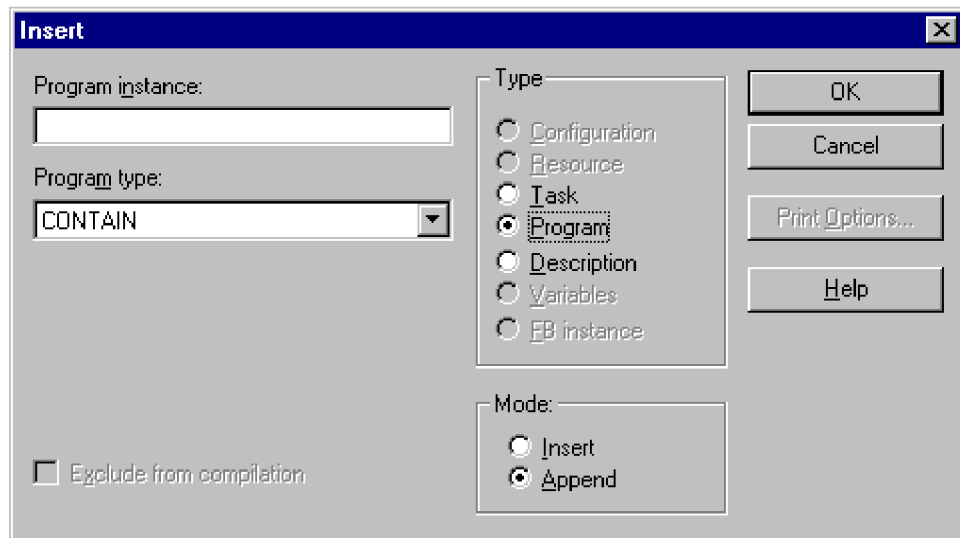

Figure 127: Dialog 'Insert'
- Activate the radio button 'Program' as shown in figure 127.